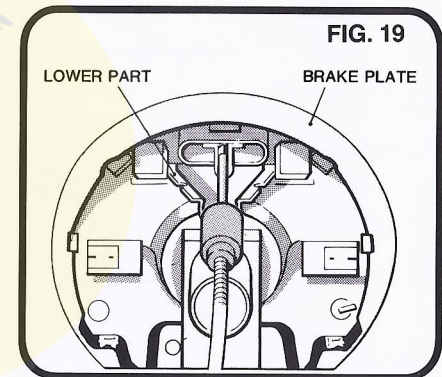

FIG. 19
- (c) Insert the upper part of the Bowden cable support into the opening of the brake plate. Ensure that it is fitted flush with the welded, lower portion of the cable support (Fig. 19).